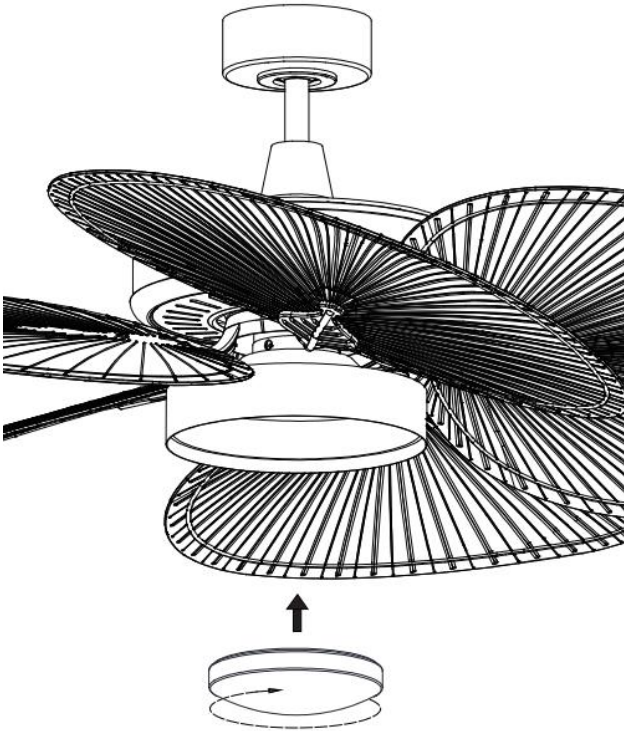

Fig. 11
- Install the GX53 globe (not included, sold separately) onto the GX53 lamp holder. (Fig.11)